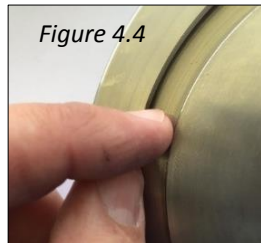

Figure 4.4
3. **Sealing Disc** - Inspect disc seating surface for scratches, dents, excessive wear, damage, etc. Replace if such conditions exist. Visually inspect the thrust washers and needle bearing for any damage. (Figure 4.4)